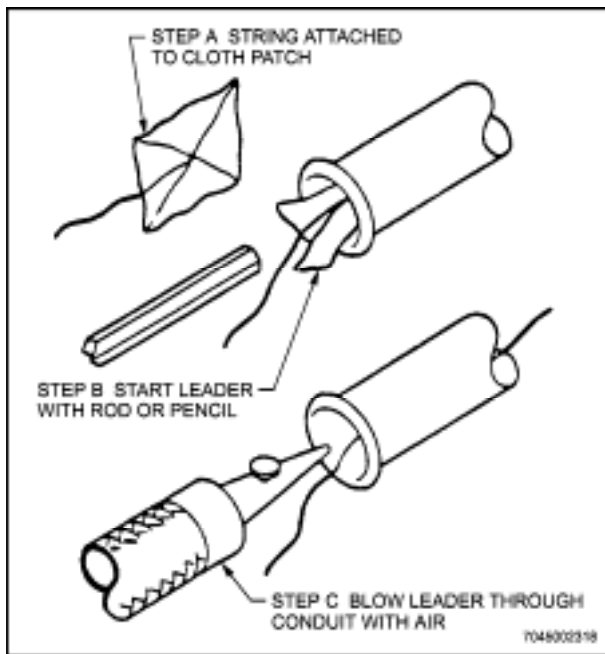

Figure 4-28 Leader for Conduit
78. Feed wires through a short length of conduit by taping the end of the bundle together and pushing it gently through. Longer runs of conduit or conduit with complex bends will require a leader. Make a leader out of a flannel or other soft cloth patch attached to a string long enough to pass completely through the conduit. The patch should fit loosely in conduit. (See Figure 4-28.) Use compressed air at no more than 240kPa (35psi) to blow patch and attached string through the conduit. Tie wire bundle securely to string and tape over junction to cover all wire ends. Pull string through conduit while carefully feeding wires into other end. After wire is installed, remove tape and detach string.